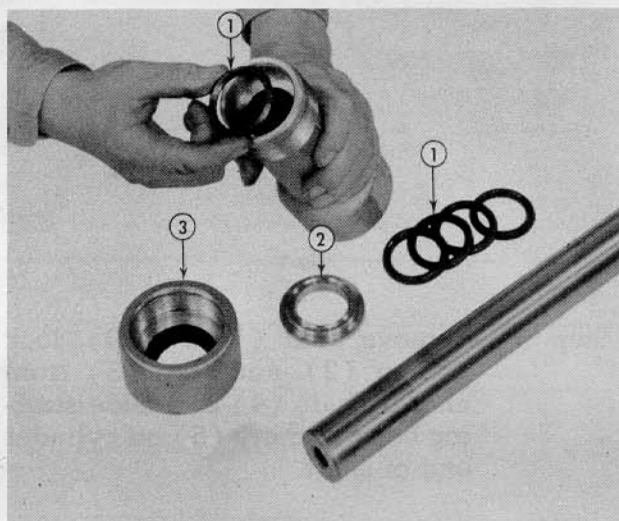

Fig. 11
Step 7—Remove packing rings from stuffing box and install new rings (1—Fig. 11). Flat ring first. Be sure “V” face of rings is down.
Step 8—Install packing nut wiper gland (2) and packing nut (3), on stuffing box.